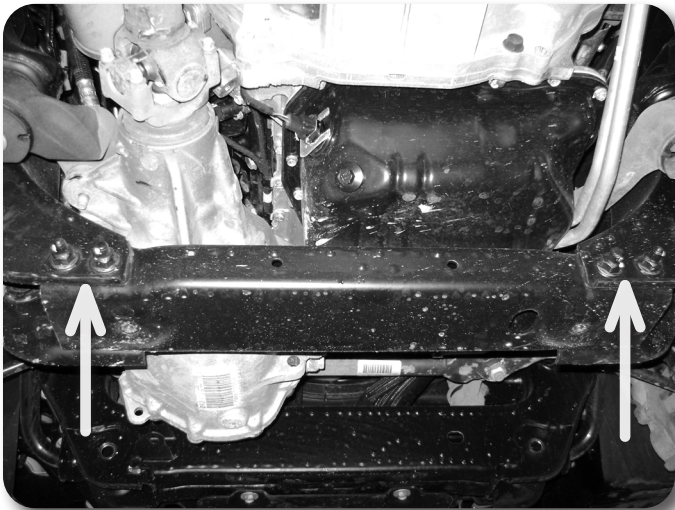

Figure 16
26. Remove the four bolts mounting the rear cross member to the rear lower control arm pockets **Figure 16**. Remove the cross member from the vehicle. The cross member and hardware will not be reused.